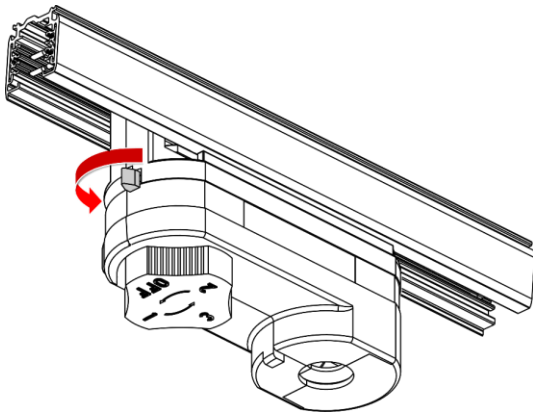

Fig. 20
- 04) Turn the **track lock (02)** counterclockwise to unlock the device (see Fig. 20).